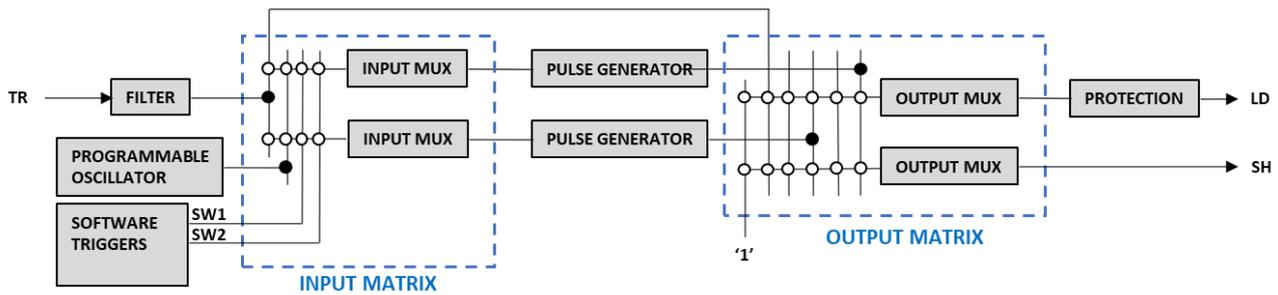

Figure 4: diagram of internal logic network
The drawing of *Figure 4: diagram of internal logic network* depicts the logic network built in the controller.
- Filtered synchronization input (TR)
As visible in the internal logic network diagram (see *Figure 4: diagram of internal logic network*), the two pulse generators can be entirely bypassed by selecting the filtered synchronization input (TR). Moreover, the outputs can operate continuously by selecting the **Continuous** option.